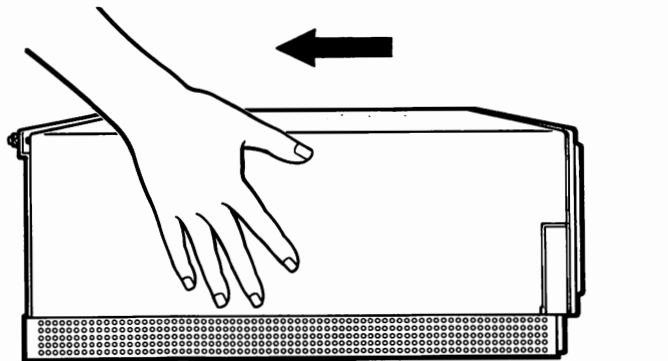

Figure 2-9. Slide the cover into place.
- With hands pressing firmly against the sides of the cover, give one quick pull toward the rear of the processor. Make sure the sides stay inside the processor frame. See Fig. 2-9.